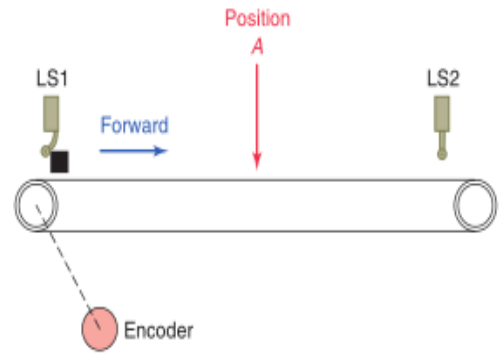

Figure 2: **Diagram of conveyor belt**
4. Design a PLC program that will correctly execute the industrial control process in figure 2. The sequence of operation is as follows: